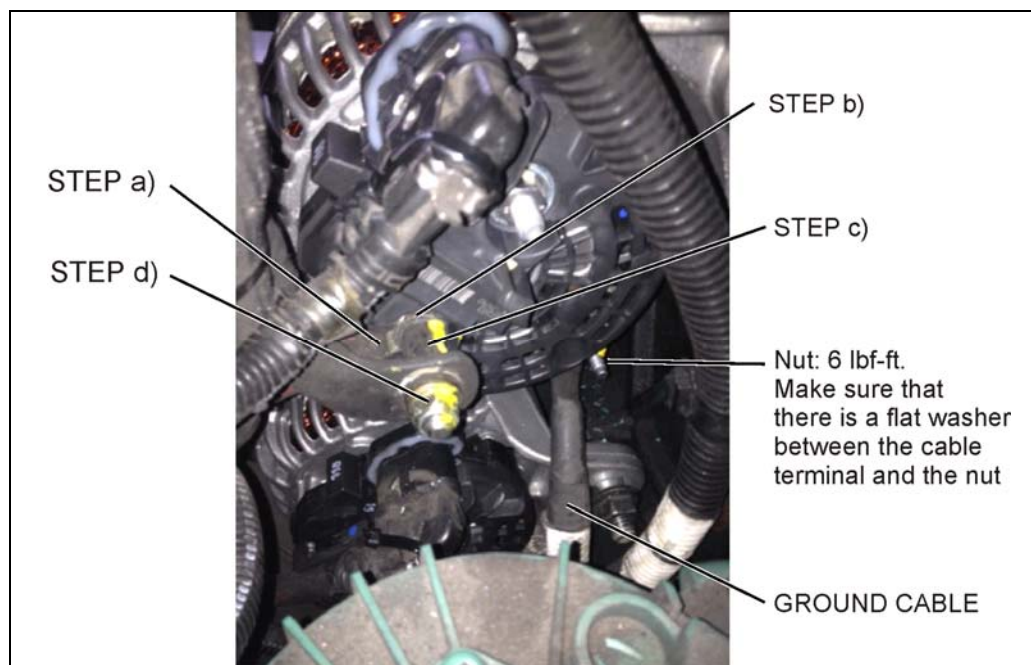

FIGURE 8 : STEP 12 a, b, c, d
- Install jumper cable (a.k.a. positive cable) onto **B1+** stud terminal on upper alternator (figure 8).
- Place one new flat washer #5001341 against the jumper cable ring terminal (figure 8).
- Screw and tighten the adapter stud #564590 (torque: 10 lbf-ft) (figure 8) prior installing main battery cable (power cable).
- Fit the main battery cable onto adaptor stud, place one new flat washer #5001341 against the battery cable terminal and screw a new nut #5001787 (nut torque: 10 lbf-ft) (figure 8).
13. Fit the ground cable onto the alternator ground stud, place one new flat washer #502573 against the ground cable terminal and screw a new nut #5001182 (nut torque: 6 lbf-ft) (figure 8).